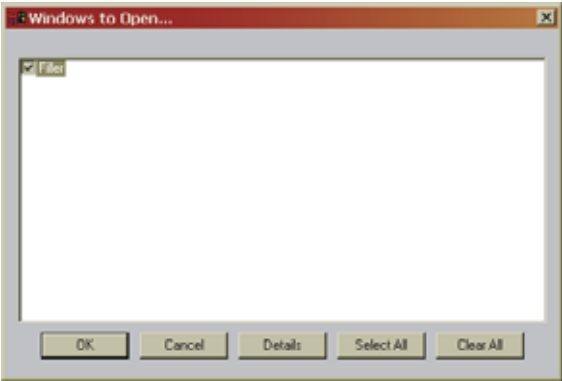

FIG. 239: WINDOWMAKER DIALOG BOX
- Step 19. The Windows to Open dialog box appears with the Windows to Open dialog box displayed. (See Fig. 239)